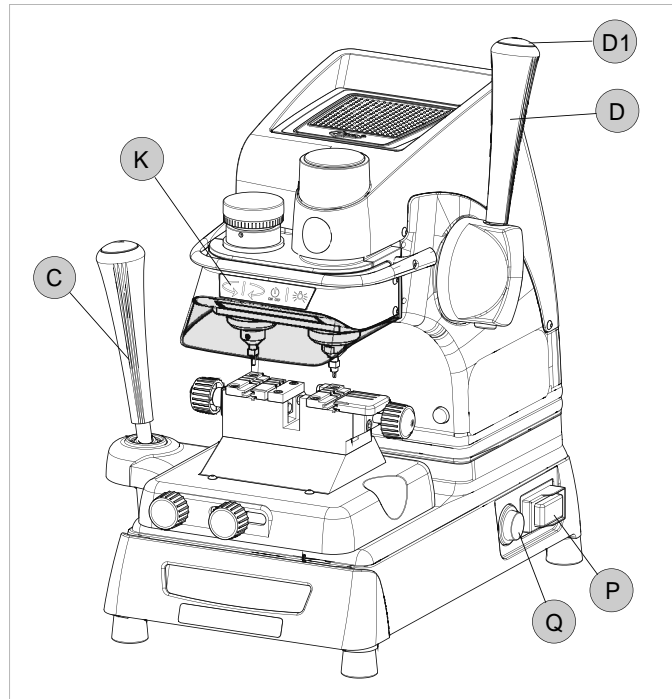

Fig. 11
- 1) Press the luminous switch (Q) to power the motor (Fig. 11).
- 2) Press the push button (D1) on the vertical axis lever (D) and lower the lever.